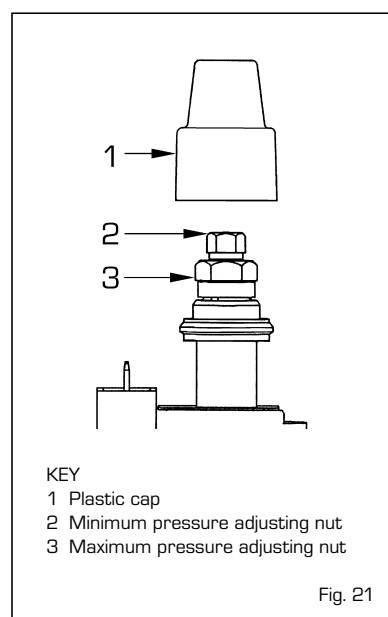

Fig. 21
4.2.1 Maximum and minimum pressure adjustment (fig. 21)